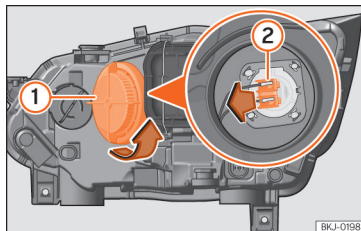

Fig. 53 In the engine compartment: main beam headlight bulb.
- Turn the cover **1** anti-clockwise and take it out »» **Fig. 53**.